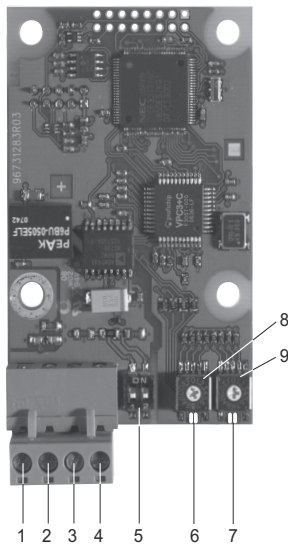

Fig. 4 CIM 150 PROFIBUS module
Note The power supply (pos. 4, fig. 4) must only be used for external termination.
The CIM 150 PROFIBUS module has two LEDs. See fig. 4.